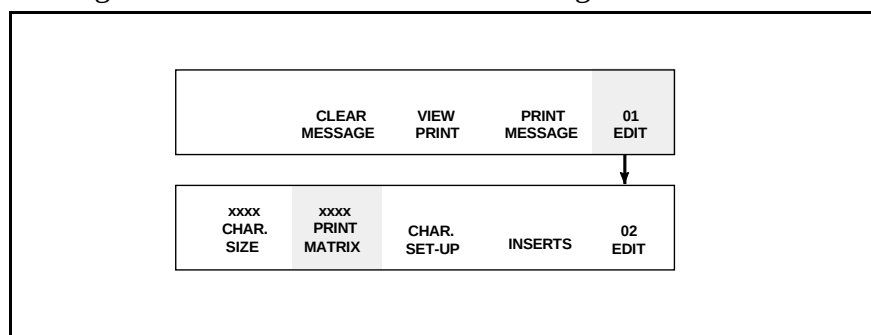

Figure 6-5. Accessing Frame <02 EDIT>
1. Press **F5** until Frame <02 EDIT> appears in the display. Refer to Figure 6-5.
3. Begin in Frame <02 EDIT>. Refer to Figure 6-5.